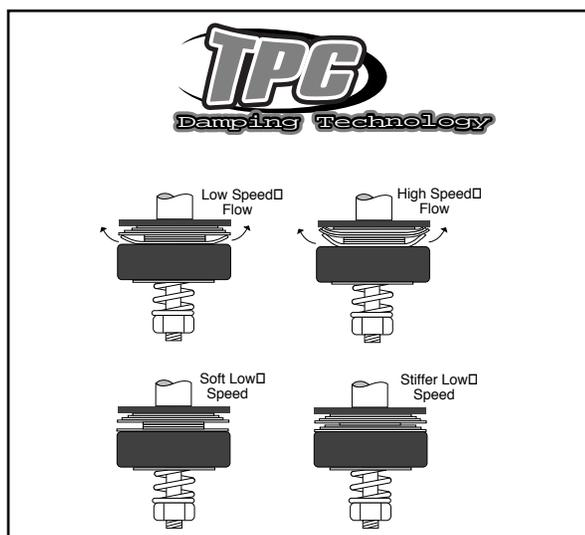

Figure 4 (Shim Stack Tuning)
The TPC shim stack (see fig. 4) meters fluid flow through the damping piston within the cartridge. Changing the number of shims, their thickness and their diameter will alter damping character as will changing the oil weight. You can't change the diameter of the shim closest to the piston though, as this is fixed and based on the piston's ports and its diameter. Changing a large-diameter shim has more effect than changing a small-diameter shim.
5. More shims and/or thicker shims will increase damping. (See figure 4).
6. Fewer shims and/or thinner shims will decrease damping. (See figure 4).